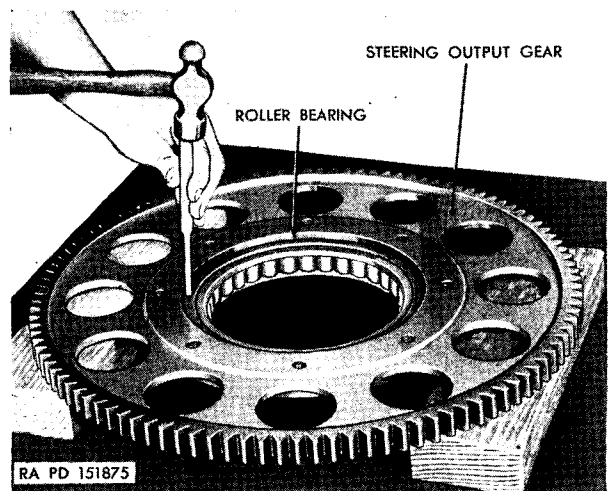

Figure 136. Removing roller bearing.
- (5) Remove the eight bolts from the steering output and output-sun gear assembly, using a $\frac{3}{4}$ -inch socket.
- (6) Using a soft hammer, separate the gears. Using a drift, tap on the outer race to remove the roller bearing from the steering-output gear (fig. 136).